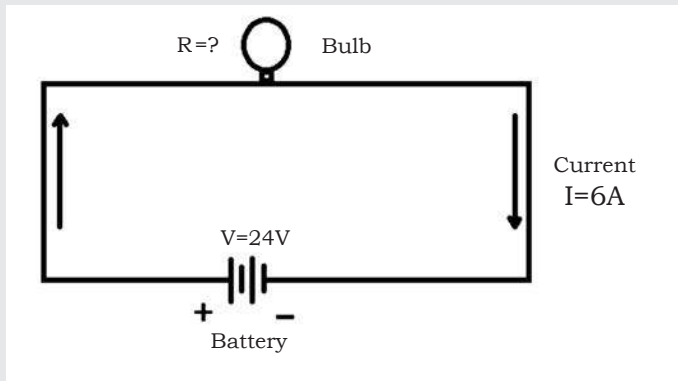

Fig. 1
12. (a) Calculate the resistance 'R' in the circuit (Fig. 1).